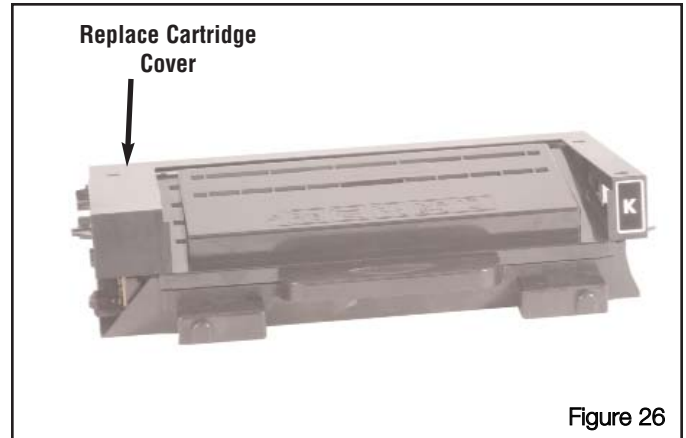

Figure 26
1. Replace the Cartridge Cover and press down to lock the locking clips, see Figure 26.